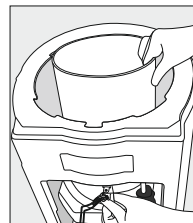

Figure 26
7. Use both hands, loosen the reservoir from the evaporator band and lift it straight through the cooler opening (Figure 26)